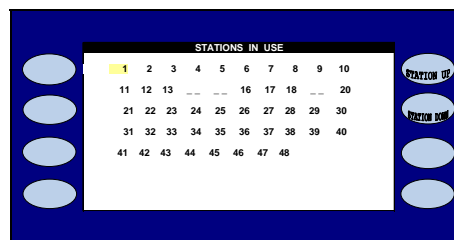

Figure 2.6
The STATIONS IN USE screen is displayed (Figure 2.6)
4.  Press the **PLUS** or **MINUS** keys to turn off the station. Two dashed lines (- -) will appear instead of the station number. (In figure 2.6, Stations 14, 15, and 19 are turned off. To turn them back on,